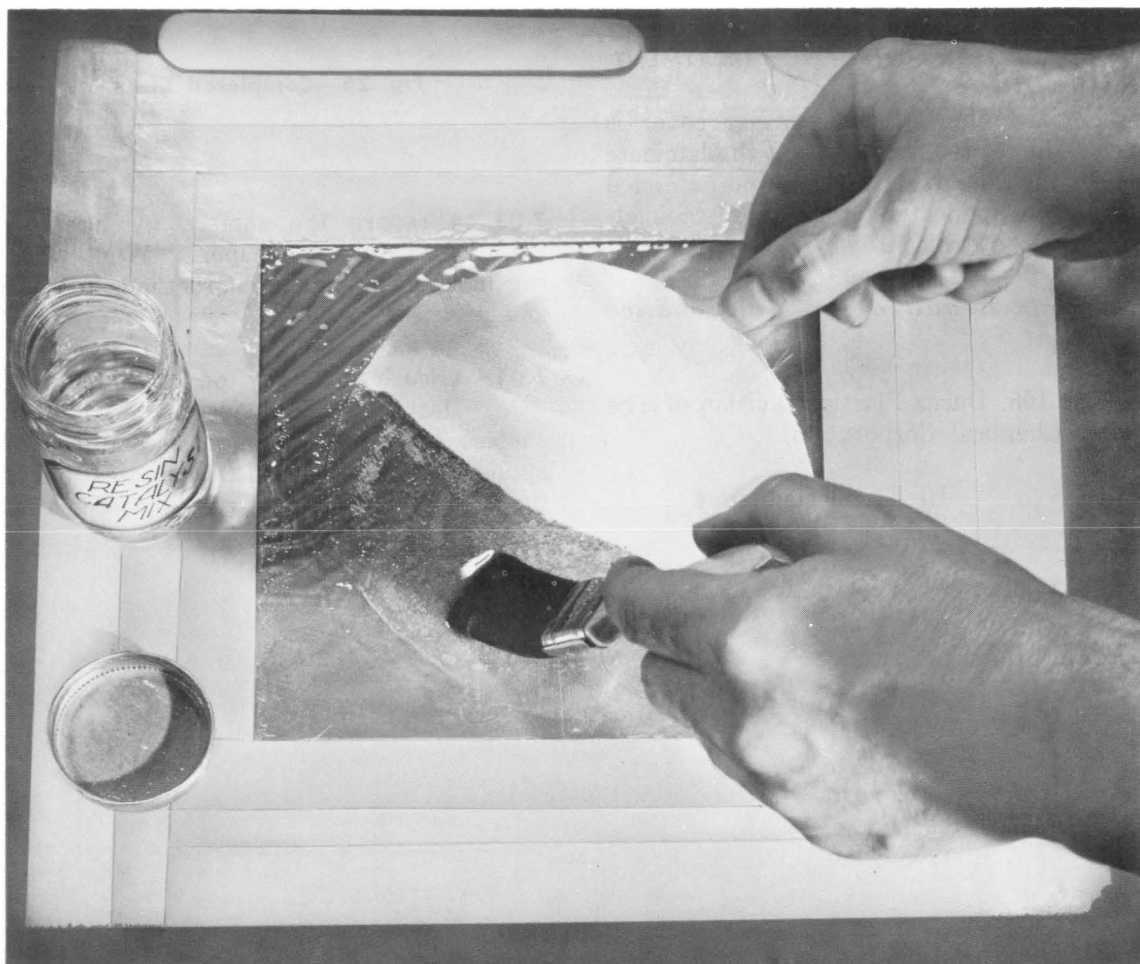

Fig. 24—Partially Completed Patch
6.16 Repeat with the other two patches. (See Fig. 24.)